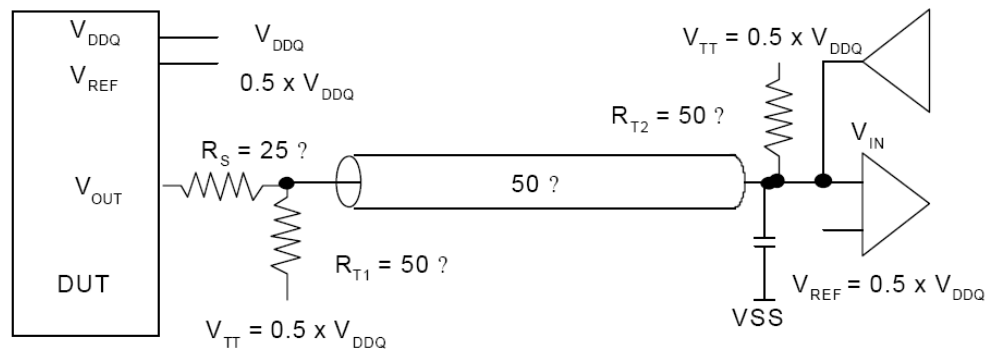

Figure 51 - SSTL2 Class 2 Termination
**SSTL2 Class 2** termination is used for bi-directional signaling, such as data signals. It is based on a  $50\Omega$  controlled impedance driver and a  $50\Omega$  parallel termination to  $V_{TT}$  for the receiver at both ends, connected through a  $50\Omega$  controlled impedance transmission line. Figure 51 shows a basic SSTL2 Class 2 circuit. The driver is brought to  $50\Omega$  by the addition of a  $25\Omega$  series resistor immediately adjacent to the driver.